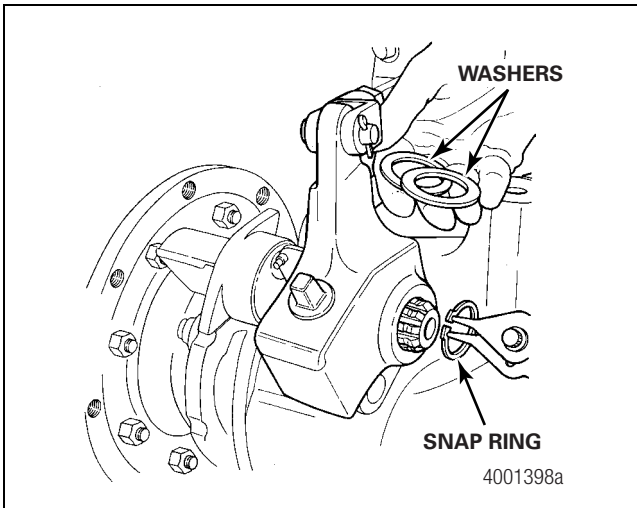

Figure 3.28
4. Remove the snap ring and the washers that secure the adjusting lever to the camshaft. Remove the lever. Figure 3.28.